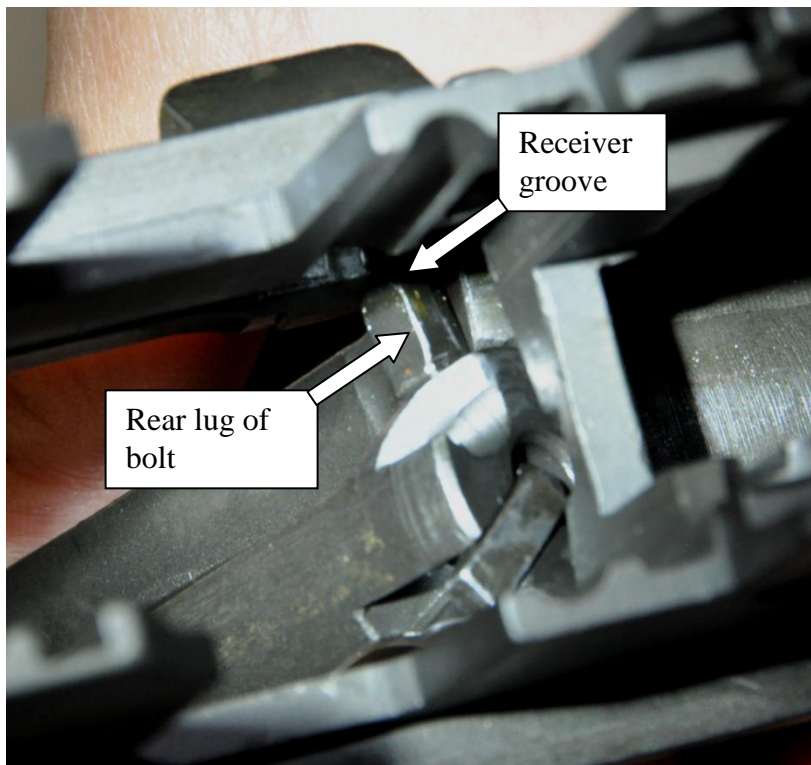
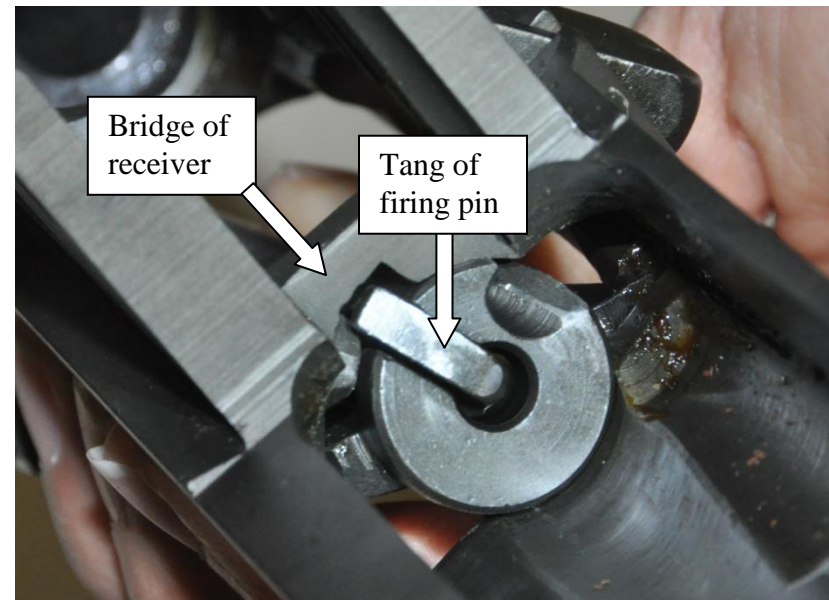

Figure 35. Rear lug in groove on receiver
Figure 36. Tang clearing notch in bridge of receiver
- 3) To replace the bolt, hold the rifle upright and guide the rear lug of the bolt into its groove on the left side of the receiver (fig 35). Rotate so that the tang of the firing pin clears the notch in the bridge of the receiver (fig 36). Align the right locking lug on its bearing surface and slide the bolt to the rear.
Note: Figures 35 and 36 show the rifle inverted. It is not necessary to invert the rifle but the figures are provided to aid in the bolt insertion.